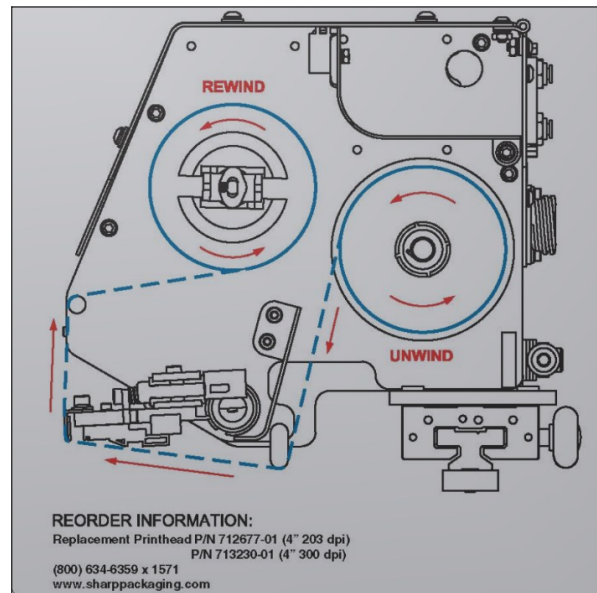

Figure 4-10B. Ribbon Threading Diagram.
3. Thread Printer Ribbon per the Web Threading Diagram. Figure 4-10B.